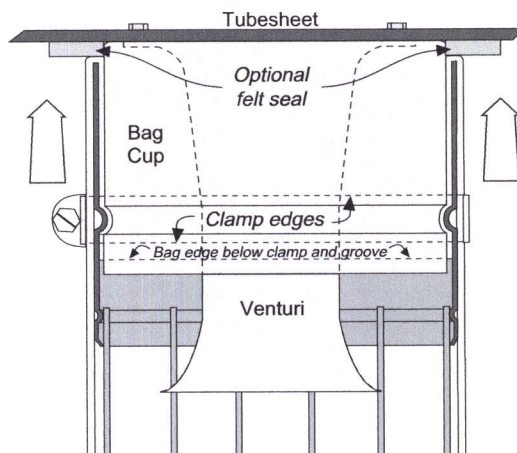

Figure 3
4. Slide the bag/cage combination over the bag cup which is below the tubesheet. The bead on the inside of the cage (the back of the groove) should be squarely in the groove of the bag cup with the fabric of the bag between the cage top and the bag cup (see figure 3).